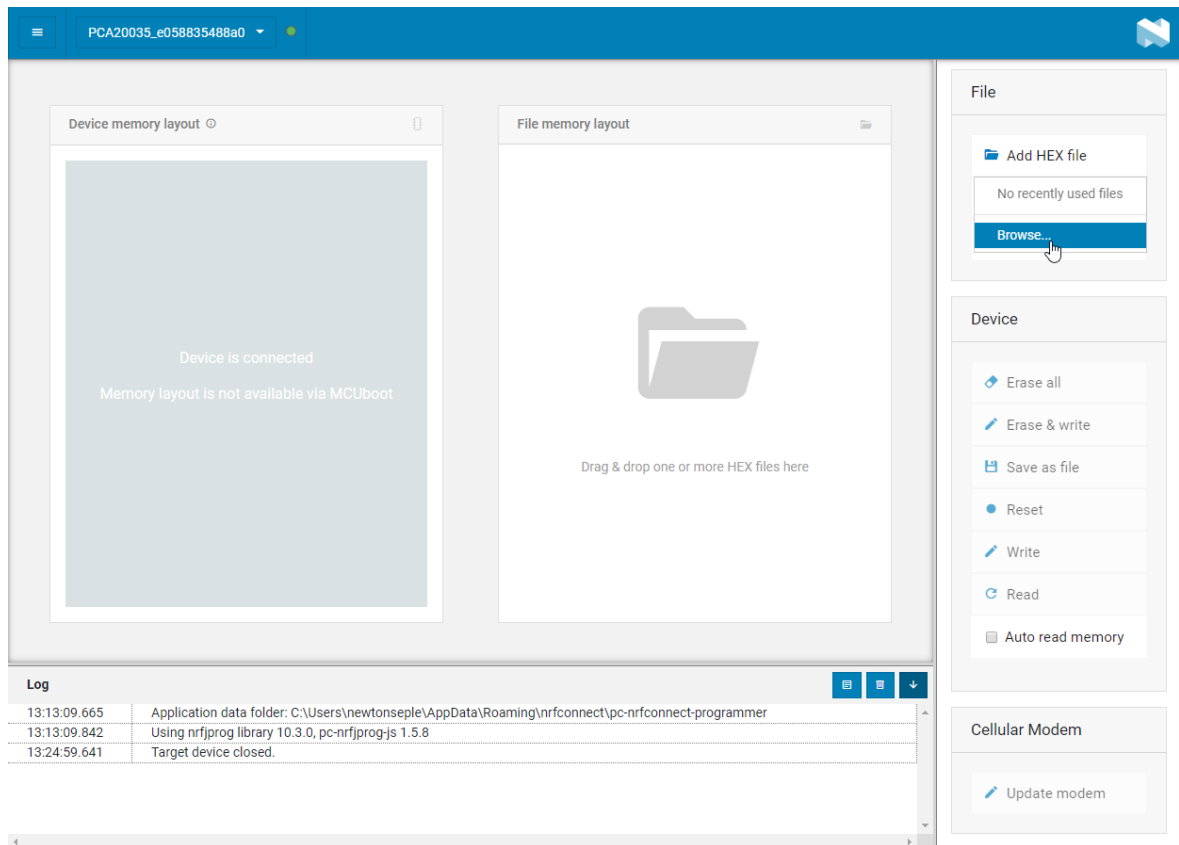

Figure 10: Selecting the firmware image file using Add HEX file (Browse) option in the nRF Connect Programmer
6. Click **Browse** from the drop-down list that appears as a result of the previous step in the nRF Connect Programmer as shown in Figure 10: Selecting the firmware image file using Add HEX file \(Browse\) option in the nRF Connect Programmer on page 18.